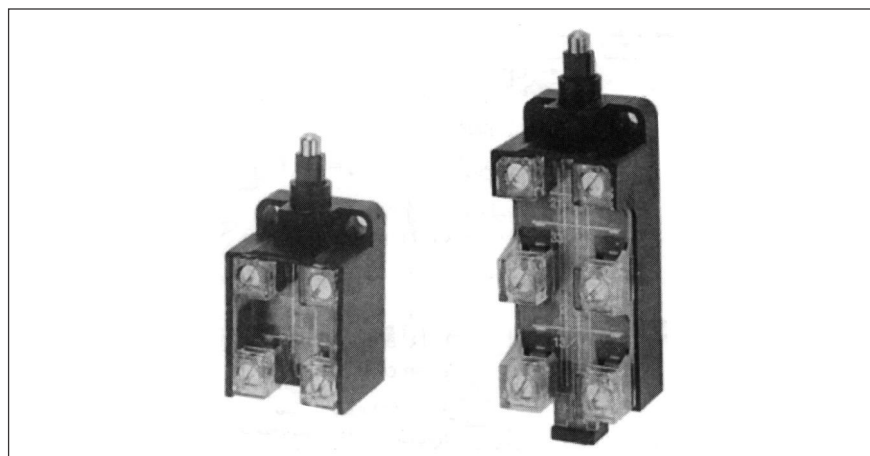

Fig. 2 Moving parallel contacts open design Terminals IP 20, chamber IP 40, 6 mm stroke
- ** Protected against foreign bodies of 1 mm diameter/no particular protection against water ingress. (Fig. 2)